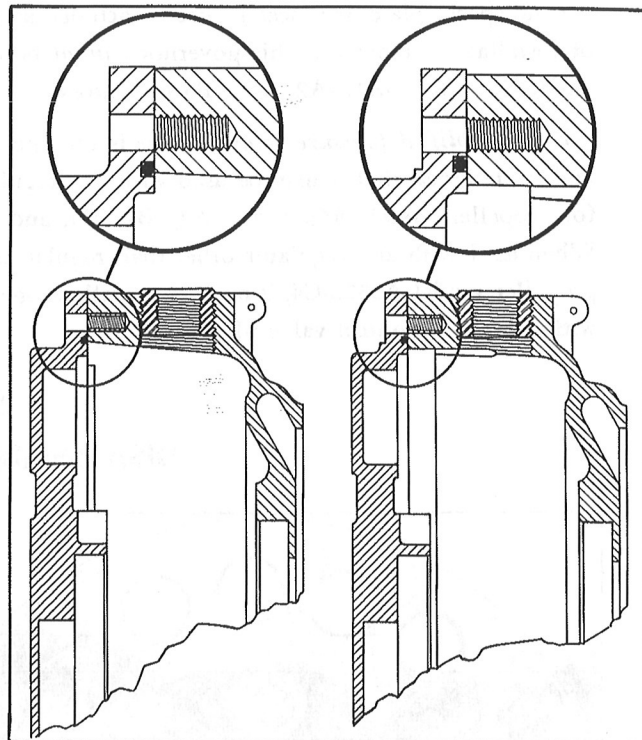

Figure 226—Comparison of Regulator Housings
d. Due to the dimensions of the *regulator housing*, regulator covers for model A632S-C4 may be used on regulator housings for model A632S-C1. However, regulator covers for model A632S-C1 may *not* be used in conjunction with regulator housings for model A632S-C4 because of dimensional differences. See Figure 226.